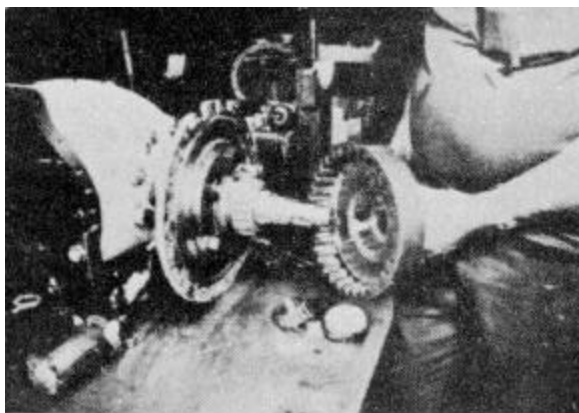

Figure 5-31
- Pry or pull off the final drive internal tooth gear with bearing cones. Fig. 5-31 shows complete removal of gear.